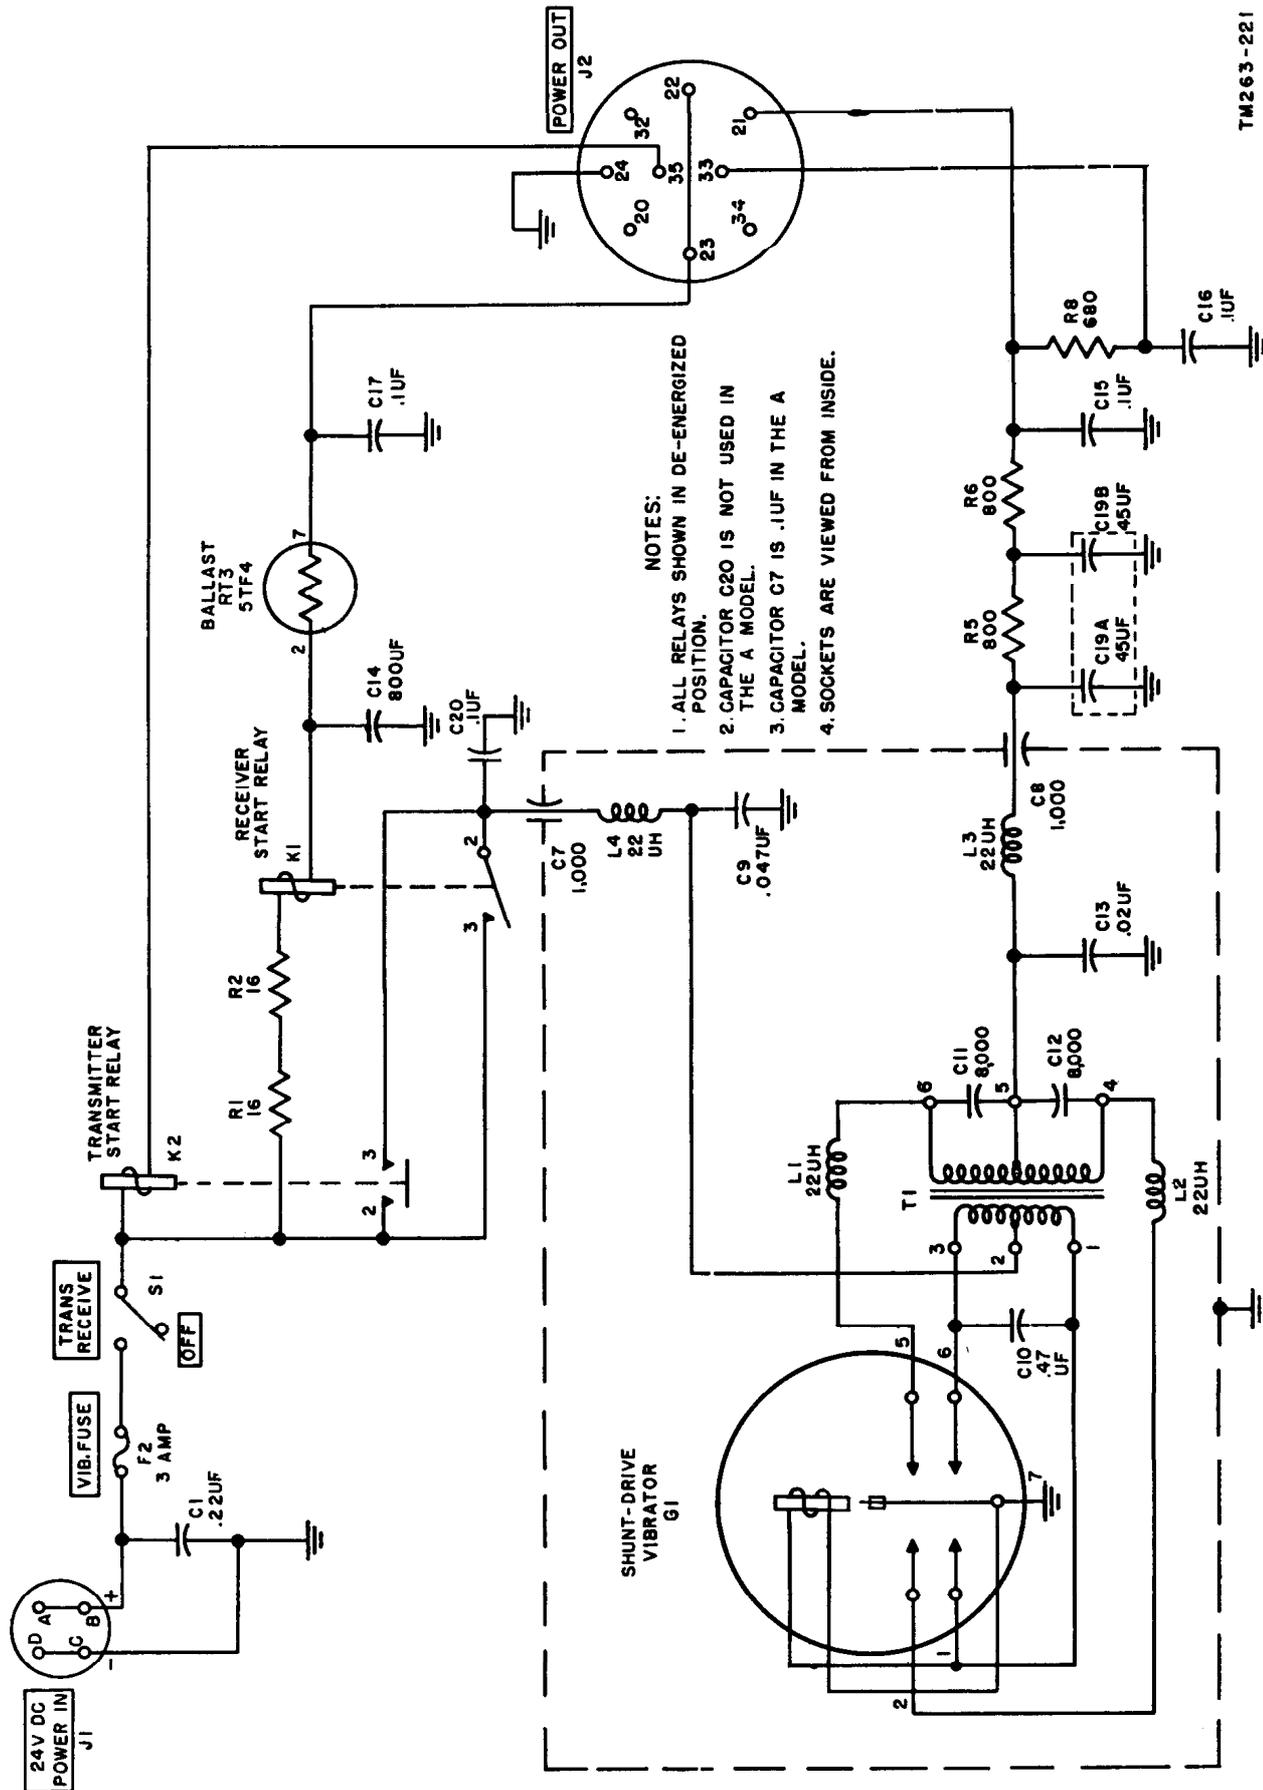

Figure 106. Dynamotor-Power Supply DY-105/GRC-9X, vibrator, transmitter start, and receiver filament circuit.
### 157. Receiver Filament Supply of Dynamotor-Power Supply DY-105/GRC-9X (fig. 106)
### 158. Receiver Plate and Screen Supply of Dynamotor-Power Supply DY-105/GRC-9X (fig. 106)
a. Closed contacts 2 and 3 of K2 apply battery power to the vibrator section of the dynamotor power supply (fig. 106). The 105-volt output is applied to the transmitter through terminal 21 of J2, terminal 57 on J102 (fig. 94), and closed contacts of keying relay K101.